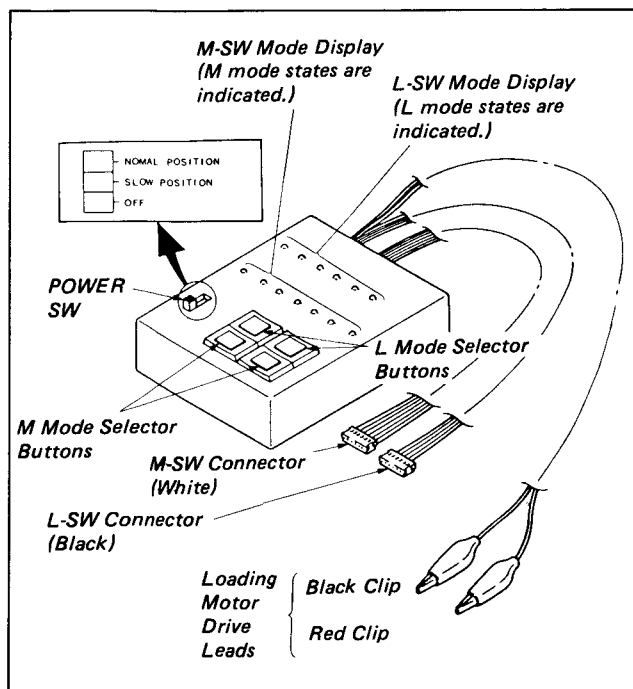

Fig. 1-4
- 3) Connect each of red and black clip of the loading motor to each of red and gray loading motor drive lead wire, respectively. (See Fig. 1-4.)